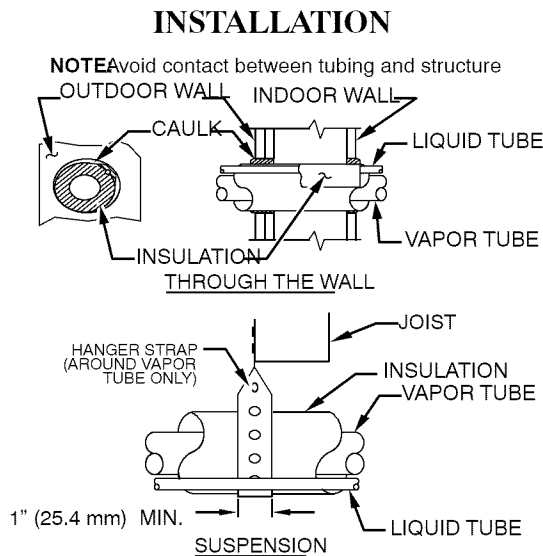

Fig. 1 - Connecting Tube Installation
5. When passing refrigerant tubes through the wall, seal opening with RTV or other pliable silicon-based caulk. (See Fig. 1.)
7. Do not suspend refrigerant tubing from joists and studs with a rigid wire or strap which comes in direct contact with tubing (See Fig. 1.)
9. When necessary, use hanger straps which are 1 in. wide and conform to shape of tubing insulation. (See Fig. 1.)